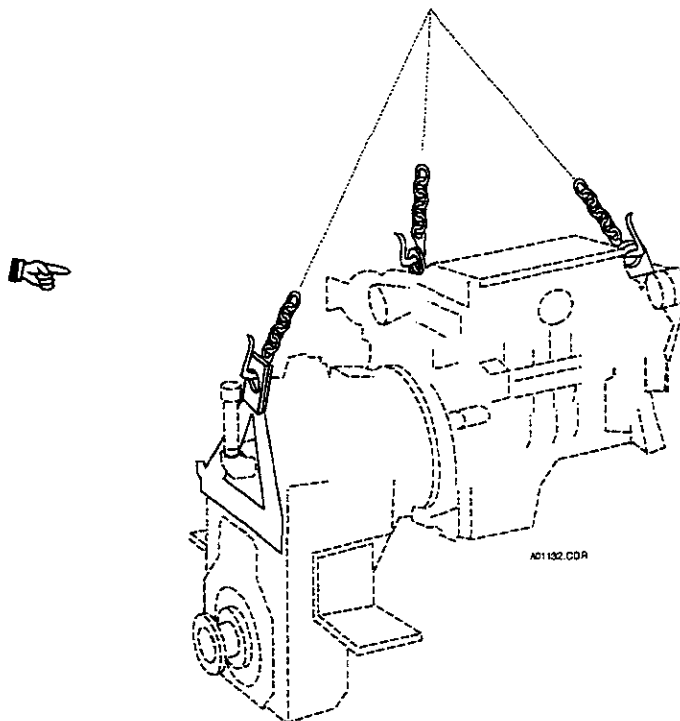

FIGURE 3.1 TRANSMISSION LIFTING BRACKET
2.1.3 Figure 3.1 shows a proper hoist of the engine and transmission assembly using a three point sling. Two points of the sling attach to engine mounted brackets, diagonally across from each other, near the front and rear of the engine's rocker covers. The third attaches to a fabricated bracket bolted to the front of the transmission case. Once attached, adjust the sling to raise the engine and transmission assembly in a level attitude out of its compartment.